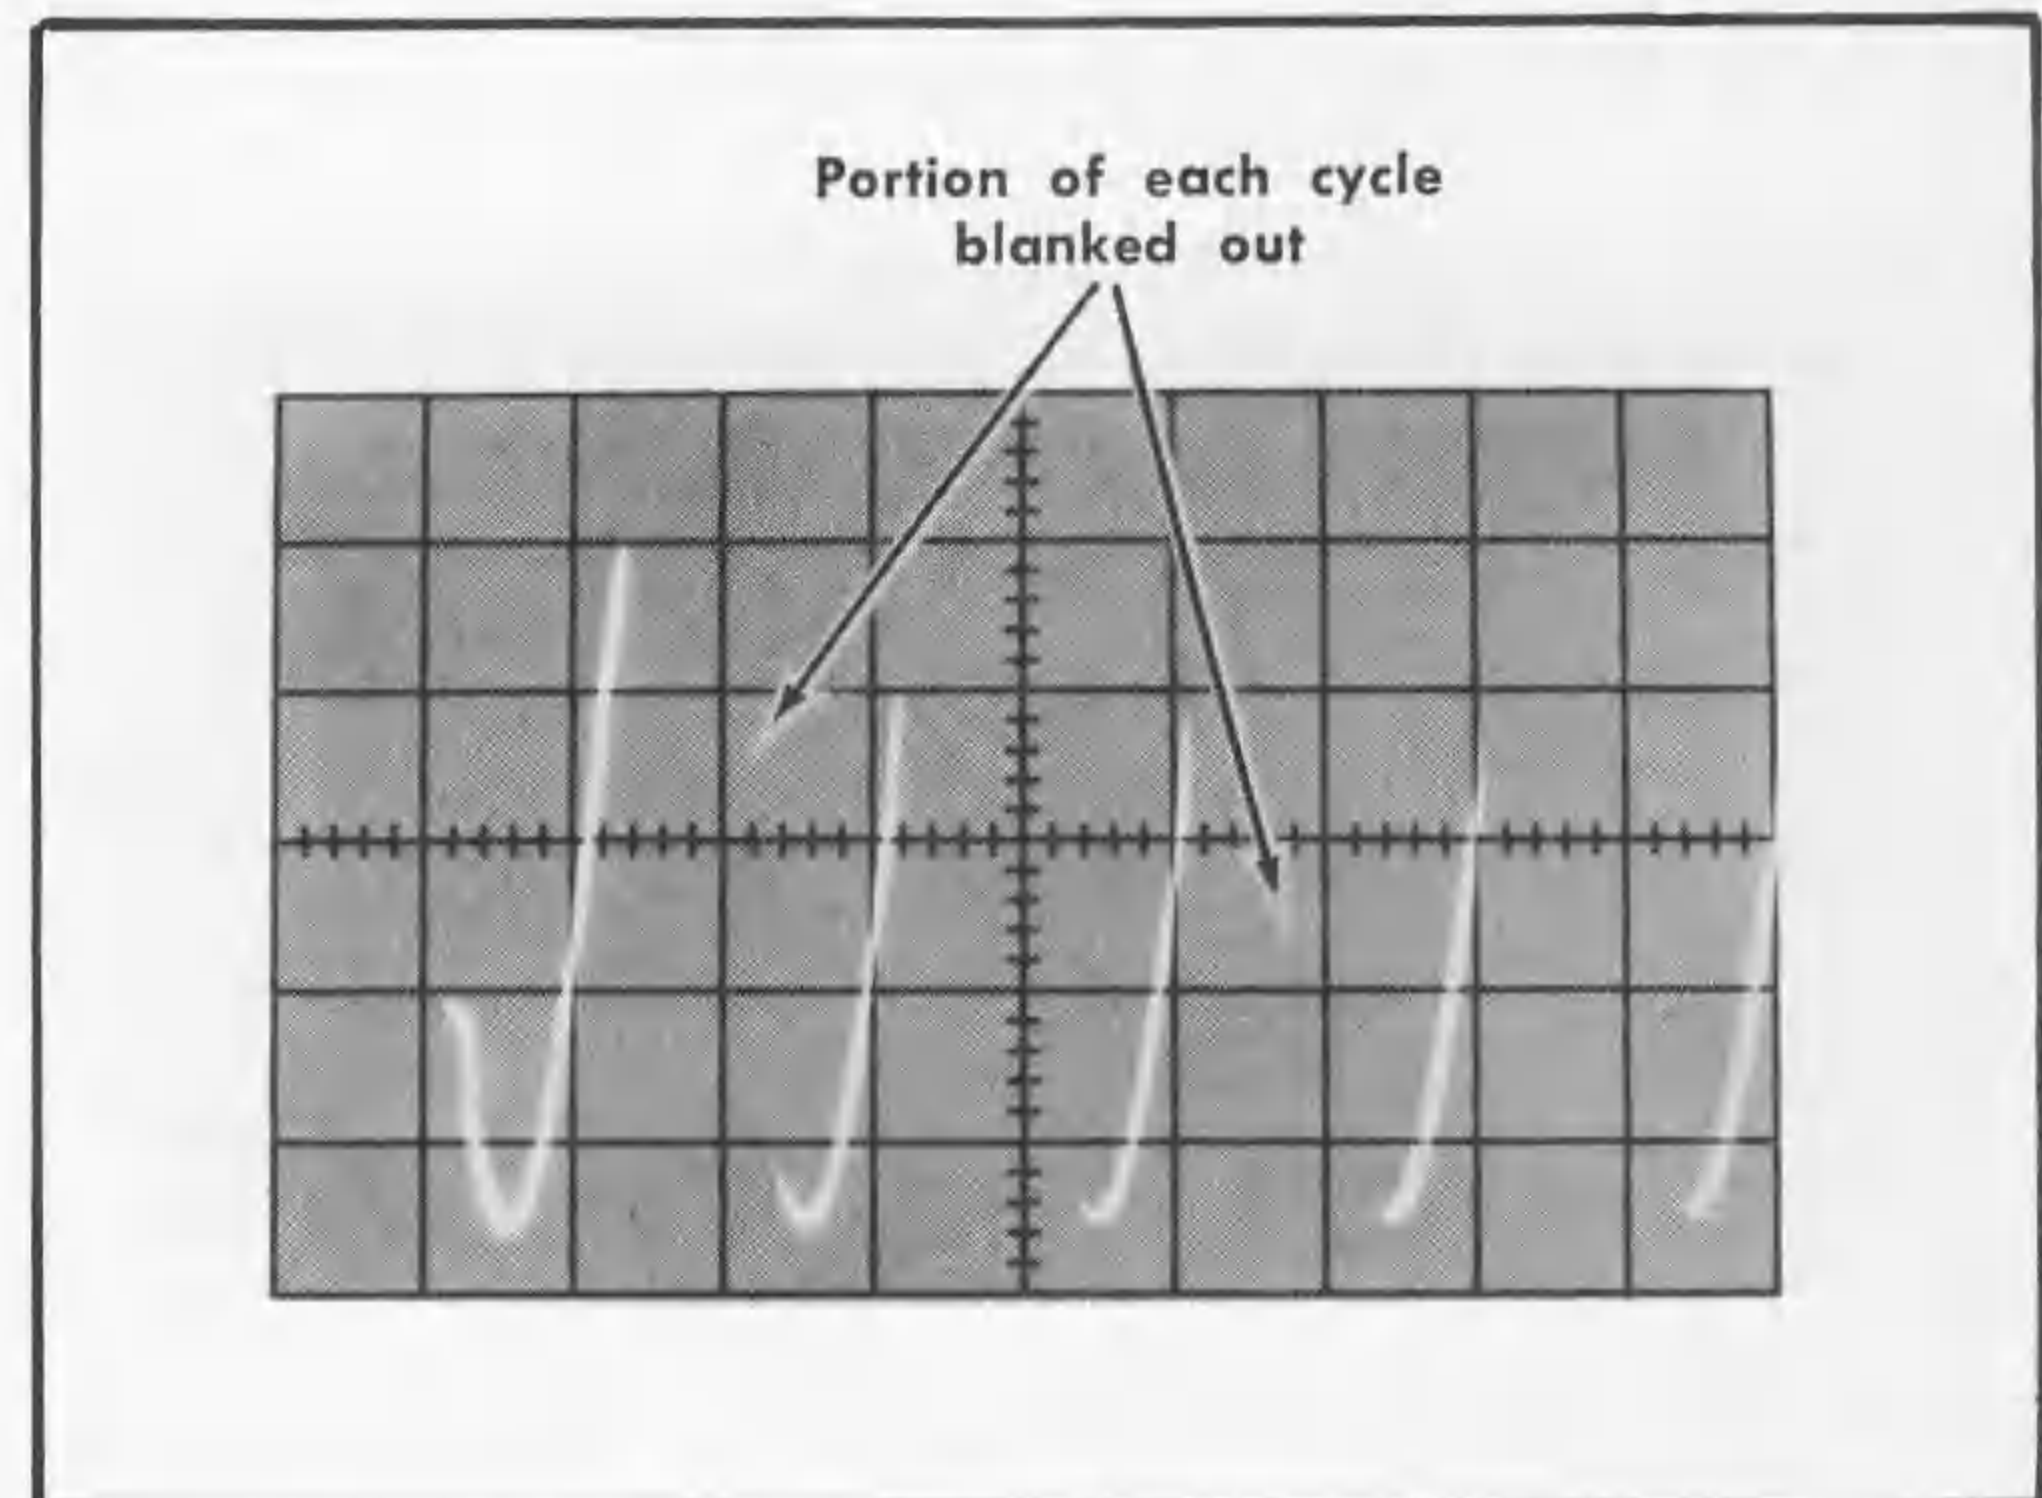

Fig. 5-13. Typical CRT display when checking external blanking.
e. CHECK—CRT display for blanking of a portion of each cycle of the waveform (see Fig. 5-13). The INTENSITY control setting may need to be changed to show blanking.